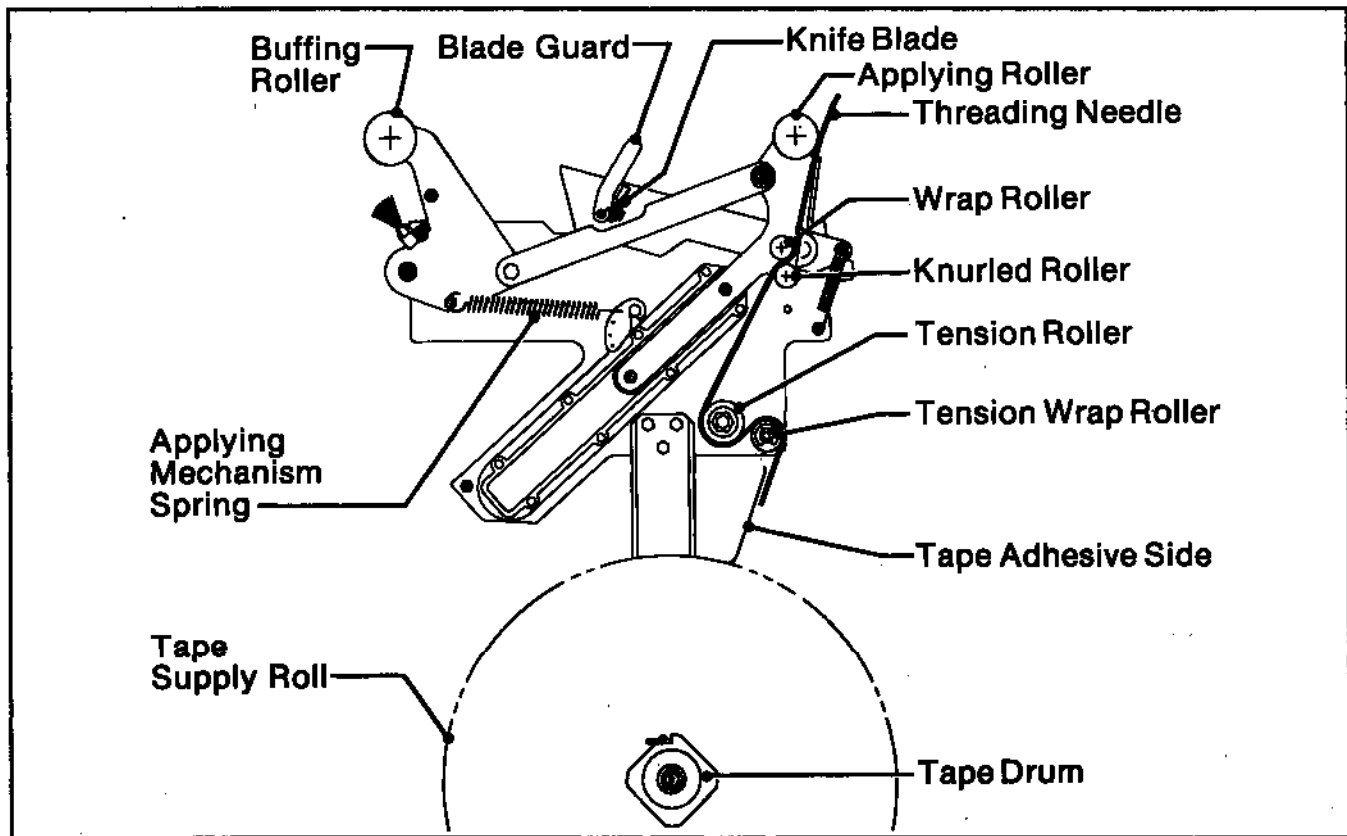
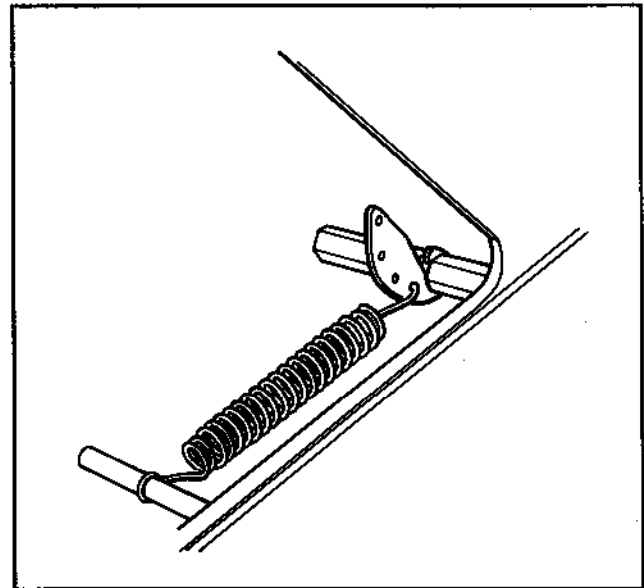
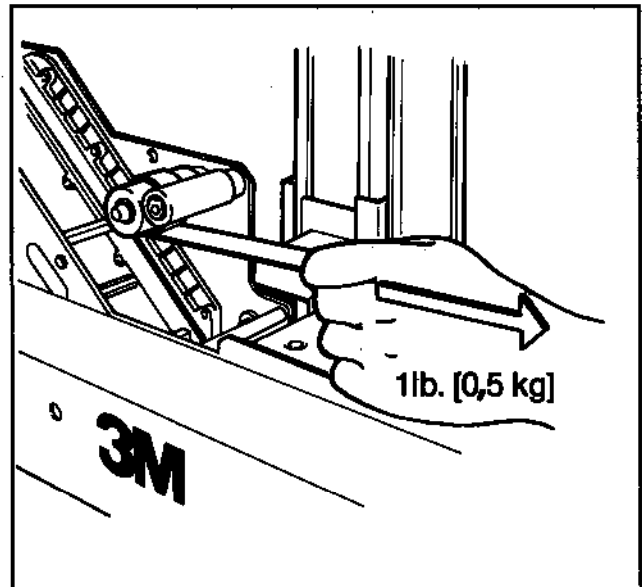

Figure 3A - Tape Threading Diagram - Bottom Taping Head - Left Side View
Figure 10
Figure 12
1. BOTH THE TOP AND BOTTOM TAPING HEADS UTILIZE EXTREMELY SHARP KNIFE BLADES ON THE ORANGE CUTTER LEVER ASSEMBLY AND WHICH ARE LOCATED UNDER THE BLADE GUARD WHICH HAS THE "CAUTION - SHARP KNIFE" LABEL. BEFORE WORKING WITH THE TAPING HEADS OR ATTEMPTING TO LOAD THE TAPE, REFER TO FIGURE 3A AND IDENTIFY THE BLADE LOCATION. KEEP HANDS OUT OF THESE AREAS EXCEPT AS NECESSARY TO SERVICE THE TAPING HEADS.
Tape Loading - Bottom Taping Head Refer to Figure 3A
The applying mechanism spring, shown in Figure 3A, controls applying and buffing roller pressure on the box and returns the mechanism to the reset position. The spring pressure is pre-set, as shown in Figure 10, for normal operation but is adjustable.
The one way tension roller, shown in Figure 3A, is pre-set for normal operation. Should the one way tension roller assembly require replacement, the roller must have 1 pound [0,5 kg] tangential force when turning as illustrated in Figure 12.